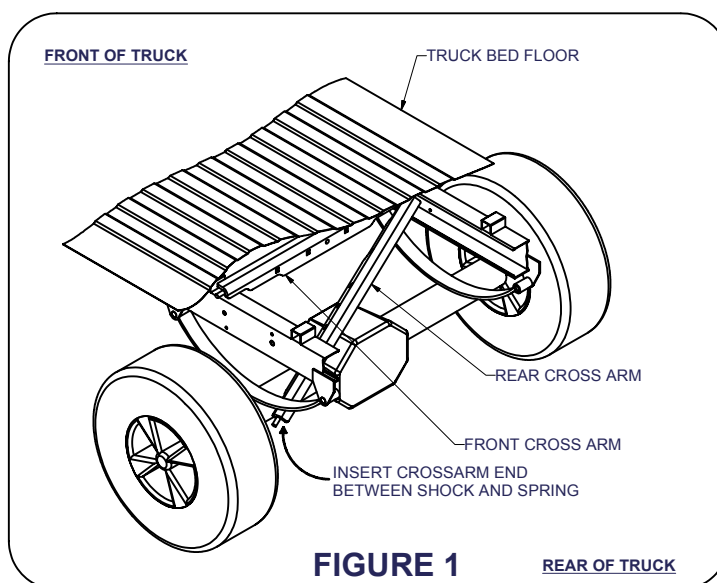

FIGURE 1
- 1) Install the cross arms by inserting them between the shock and spring. (See figure 1.) Slide leading end into the gap between truck bed and frame on the passenger side. Swing the other end into the gap between truck bed and frame on the driver's side. (Note: Holes in the cross arms must face each other as shown in Figure 1.)